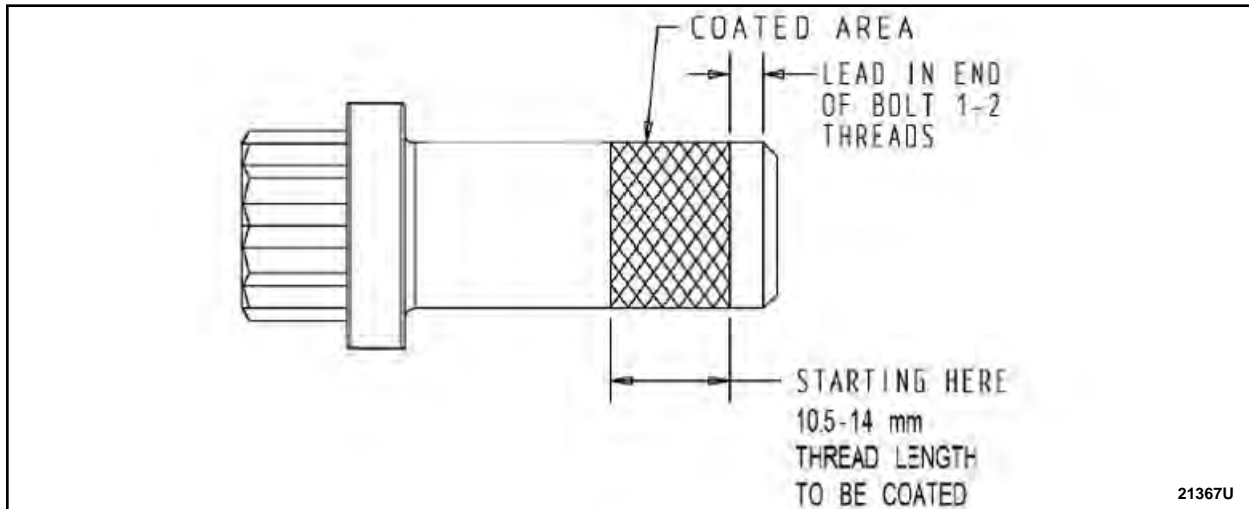

FIGURE 17
20. Inspect the original driveshaft flange to pinion flange bolts for rust in the threads and replace if rusted or damaged. Clean threads of the original driveshaft flange to pinion flange bolts with a wire brush and coat the threads with LOCTITE 243 Blue Medium Strength Threadlocker or equivalent. See Figure 17.